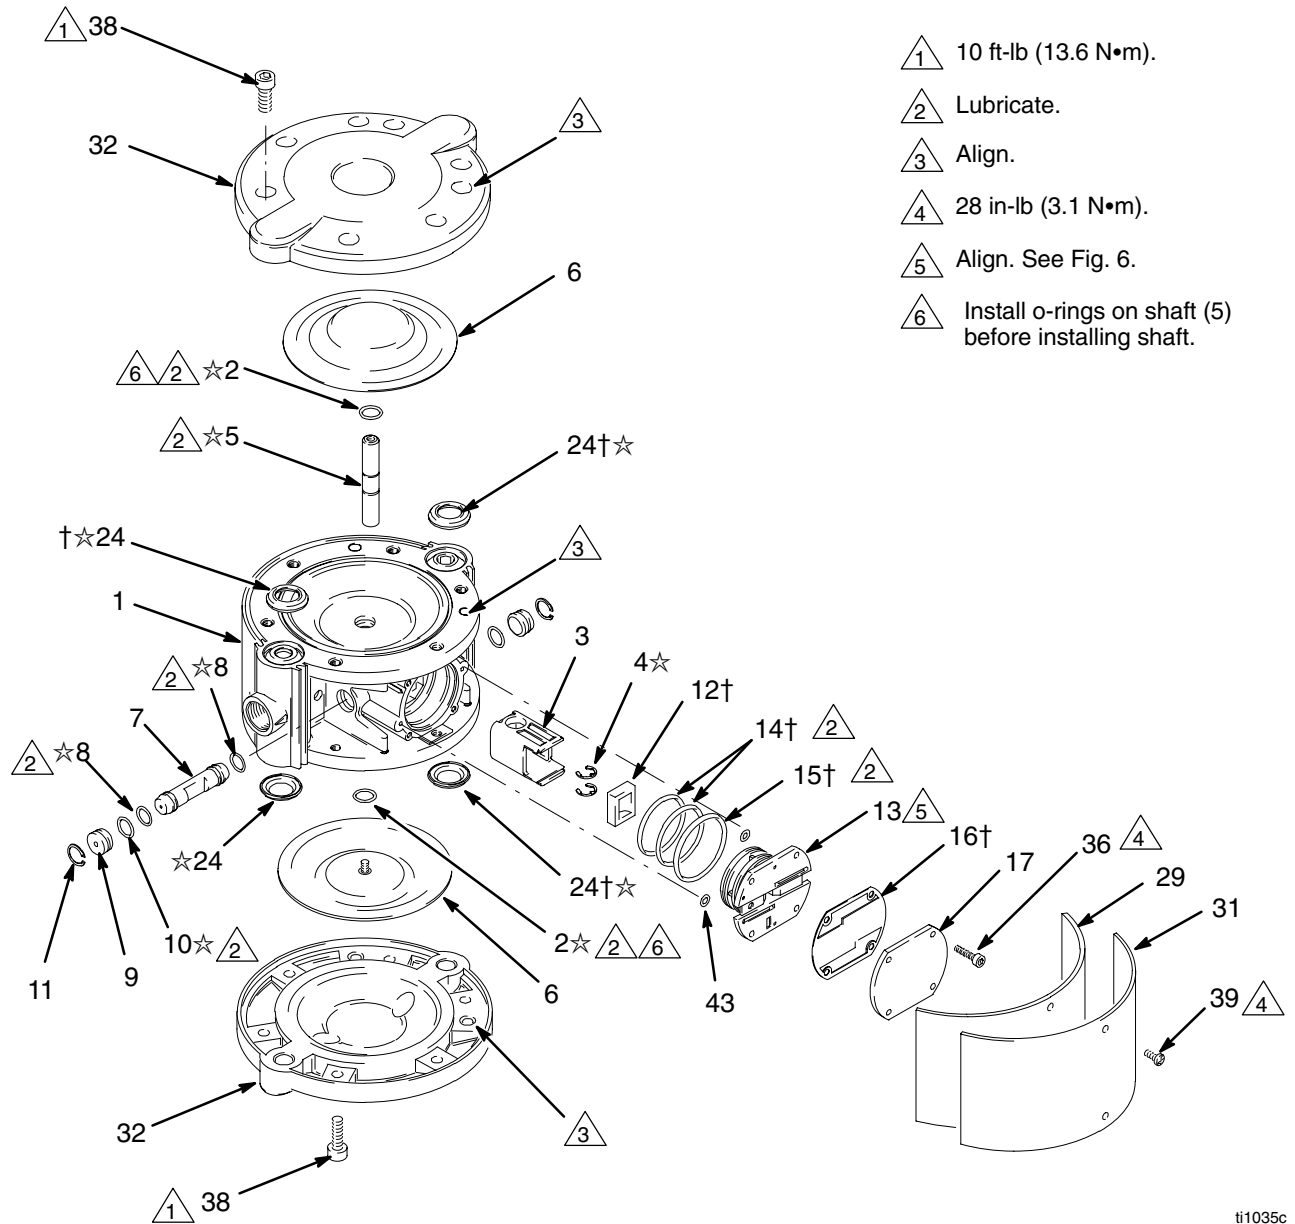

Fig. 8
1. Remove the fluid covers. See page 14. Remove the side cover (31) and felt dampener (29).
3. Remove the diaphragms (6). See page 17.
4. Remove the retaining rings (4☆) from the shaft (5). See Fig. 8.
5. Slide the shaft (5) out of the center housing (1). Remove the valve carriage (3) from the housing.
6. Remove the o-rings (2) from the shaft (5).